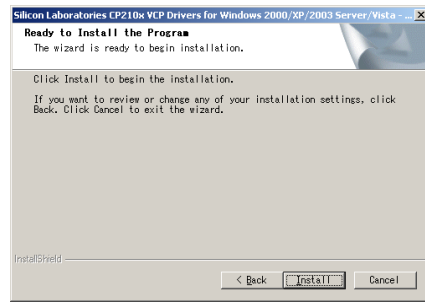

Fig. 12 USB Driver Installation Screen 3
4) Press "Install" in Fig. 12.